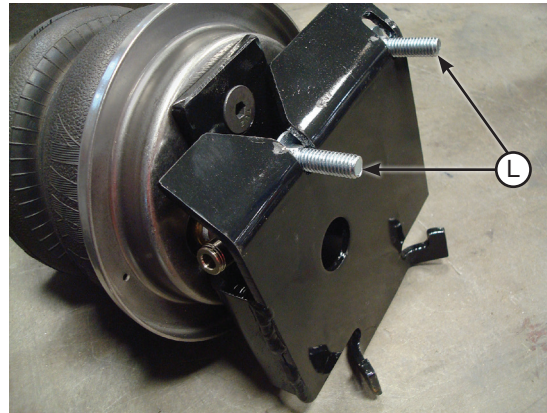

fig. E.3
1. Insert the 3/8"-16 x 1" carriage bolts (L) into the openings of the lower bracket on the front of the driver's side assembly as shown (Fig. E.3).